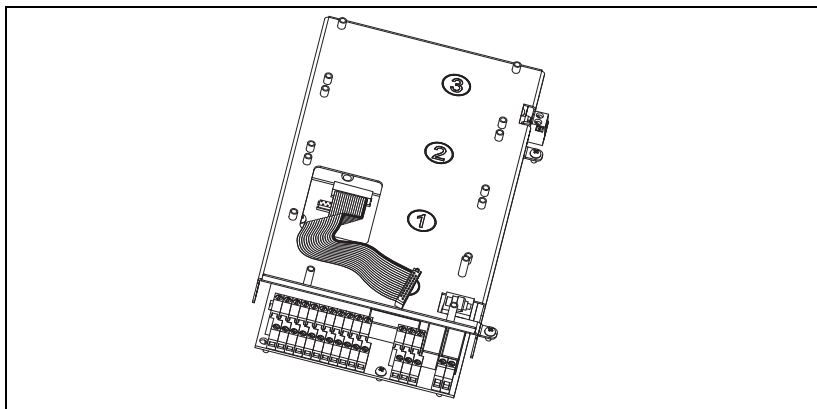

Fig. 12 Flat cable connected to the control board.
1. Connect the 16-pole flat cable (75 mm) to the X5 connector on the control board with the cable downwards as in Fig. 12